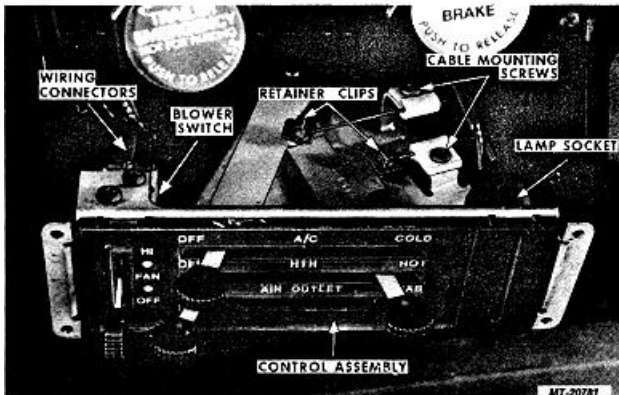

Fig. 44 Removing Control Assembly
2. Remove control assembly mounting screws. Remove control assembly trim plate. Pull control assembly outward (Fig. 44). It may be necessary to remove ash tray to allow movement of control assembly.
5. Remove control cable-to-control lever retaining clips. Remove control cable mounting screws and disconnect cable(s) from control lever(s)(Fig. 44) cables can be identified by the colored cable mounting tabs: